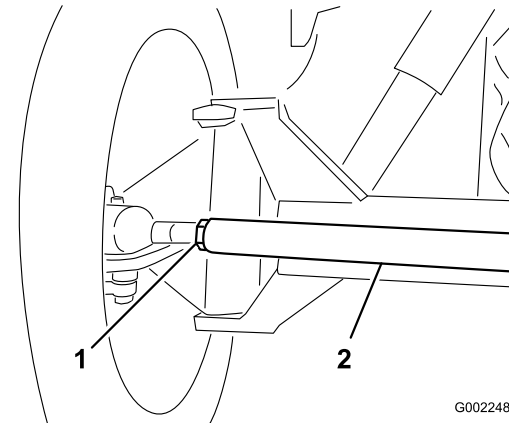

Figure 93
3. If the measurement does not fall within the specified range, loosen the jam nuts at both ends of the tie rod (Figure 93).